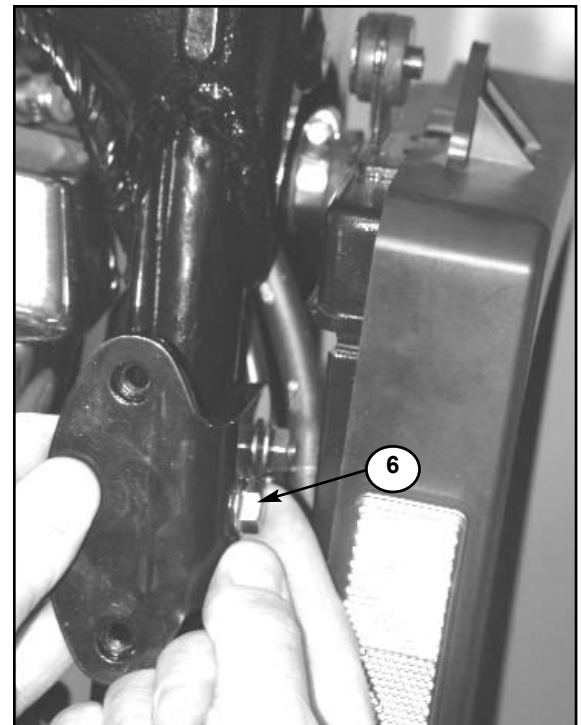

Figure 2
5. **Loosely** install Frame Bracket with Whizlock Nuts (1/2" Wrench.) Orient assembly so Whizlock Nuts face radiator. **Figure 2.**